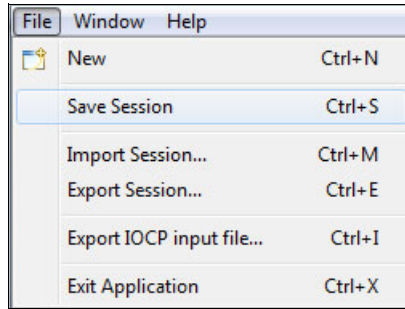

Figure 6-108 CMT - Save session
3. Select **File** → **Save Session** (Figure 6-108).